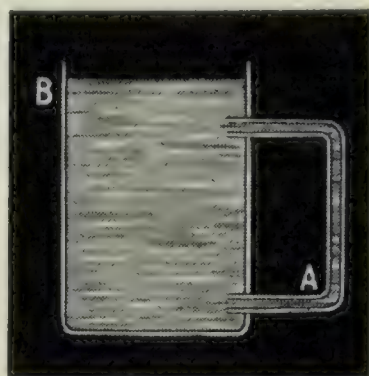

FIG. 182
6. A tank of cold water and a pipe were arranged as shown in Figure 182. A fire was started around the pipe at A. Soon the tank felt warm at point B. Tell how the heat reached that point from the fire. Be sure to name the method of transfer that took place in each step.